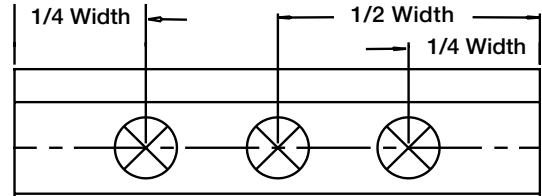

Fig. 27
- Velocity measurement should be taken at three locations per filter. These must be over the inlet opening as shown in Fig. 27.